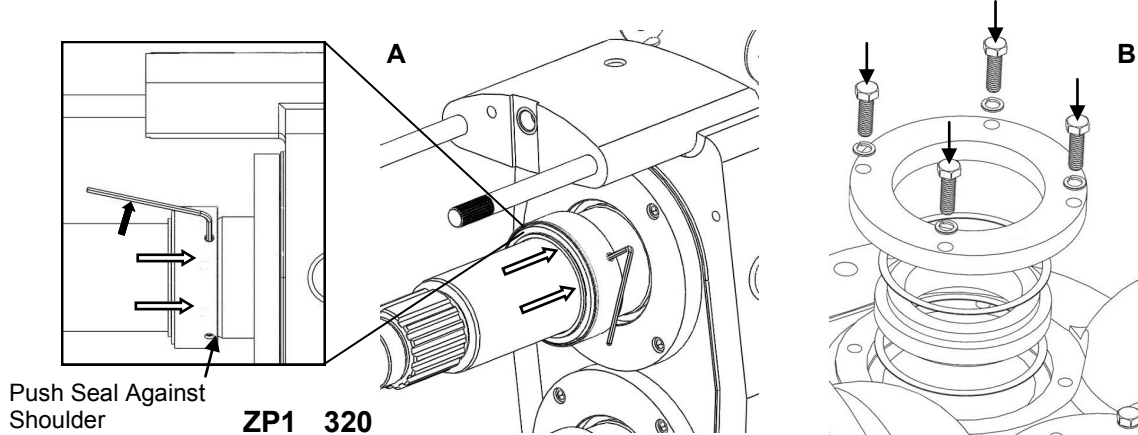

Figure 38: ZP1 320 Single Mechanical Seal Assembly
*Assembly:* Clean both shaft ends and the body before assembling. Slide the back rotating seal assemblies onto the shafts with the seal face towards the splines until it seats against the shaft shoulder (Figure 38, A). With the seal pushed against the shoulder, lock it in place by tightening the set screws. In this order install a gasket, stationary seal, gasket and seal gland into each counterbore on the body and secure them with the screws and lock washers (Figure 38, B). Make sure all seal faces are clean. See Pump Assembly on page 31 to continue.